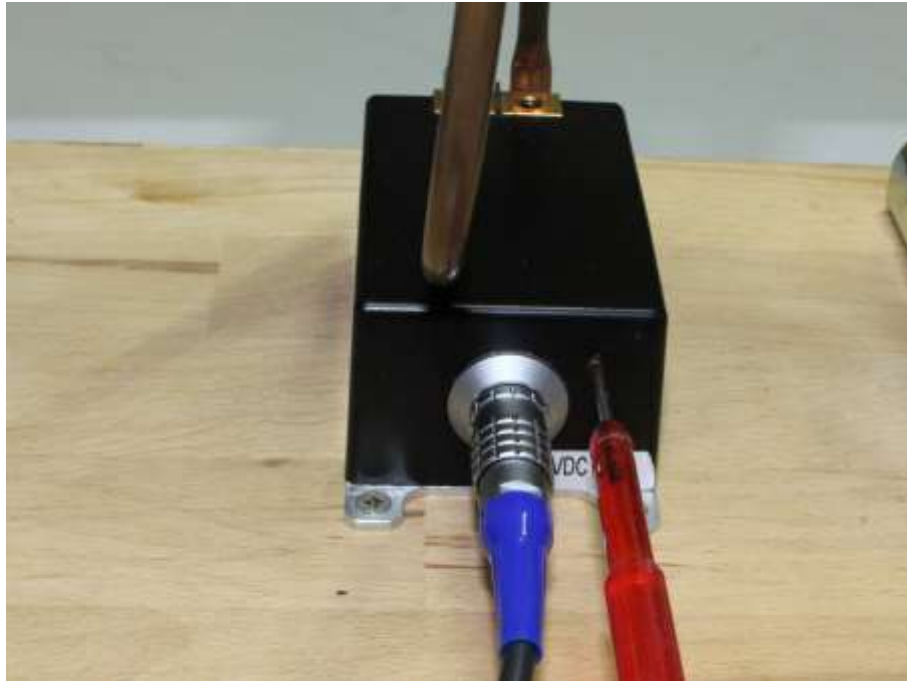

Figure 35: Adjusting the stator power via potentiometer screw
- If you measure less than 4.096 V DC between EX- and EX+, check the effective value V_{AC} of the alternating voltage between IP1 and IP2. If $0\text{ V} < V_{AC} < 0.6\text{ V}$, increase the power of the stator with the potentiometer at the stator housing (refer to Figure 35). **Please proceed slowly.** The direction of rotation for a power decrease or increase is depicted on the stator housing: Turn the potentiometer screw in the (+) direction to increase the power of the stator. To decrease the power, turn the screw in (-) direction.
- If you measure less than 4.096 V DC between EX- and EX+, check the effective value V_{AC} of the alternating voltage between IP1 and IP2. If $0\text{ V} < V_{AC} < 0.6\text{ V}$, increase the power of the stator with the potentiometer at the stator housing (refer to Figure 35). Turn the potentiometer screw clockwise to increase the power of the stator. To decrease the power, turn the screw in counterclockwise direction.